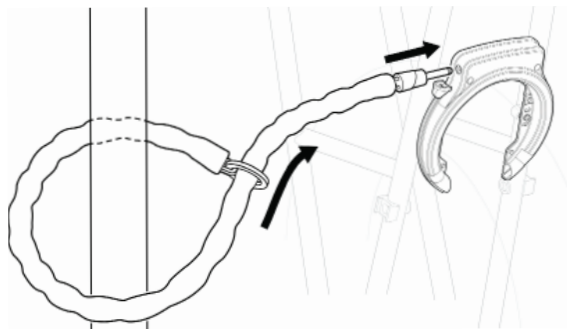
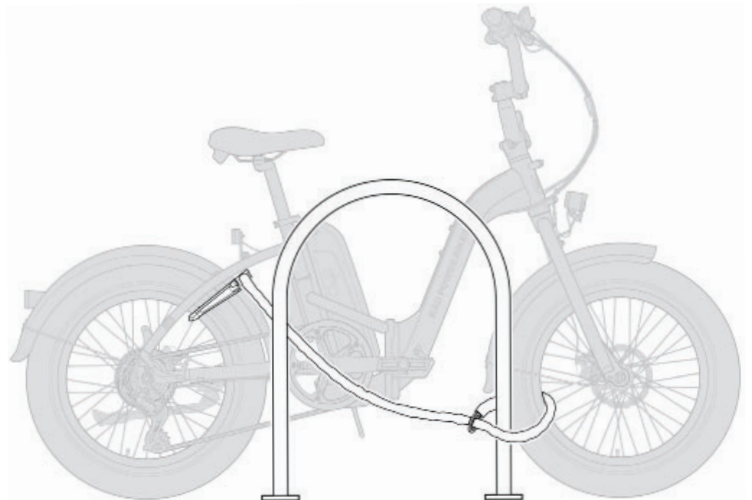

Figure 10: Short Security Chain
Figure 11: Long Security Chain
- a. Place the Rad Fat Tire Wheel Lock Security Chain (sold separately) around a stationary bike rack or a tall, secure pole. Insert the lock pin end of the chain through the ring (Figure 10). When using the long security chain, enclose the front wheel and attach the chain around a secure object, as illustrated (Figure 11).
- b. Insert the lock pin of the chain into the port on the lock until it clicks into place (Figure 10).